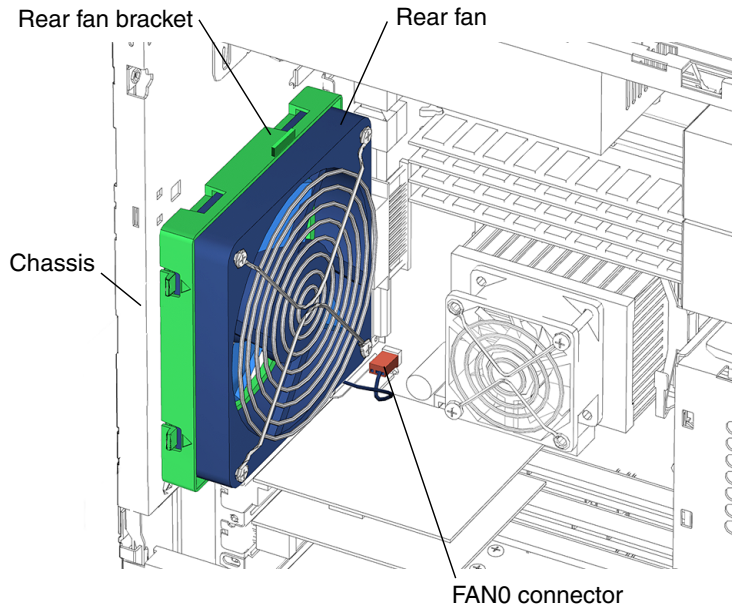

FIGURE 13-22 Connecting the FAN0 Connector
- 7. Connect the rear fan cable to the motherboard rear fan connector FAN0 (FIGURE 13-22).**